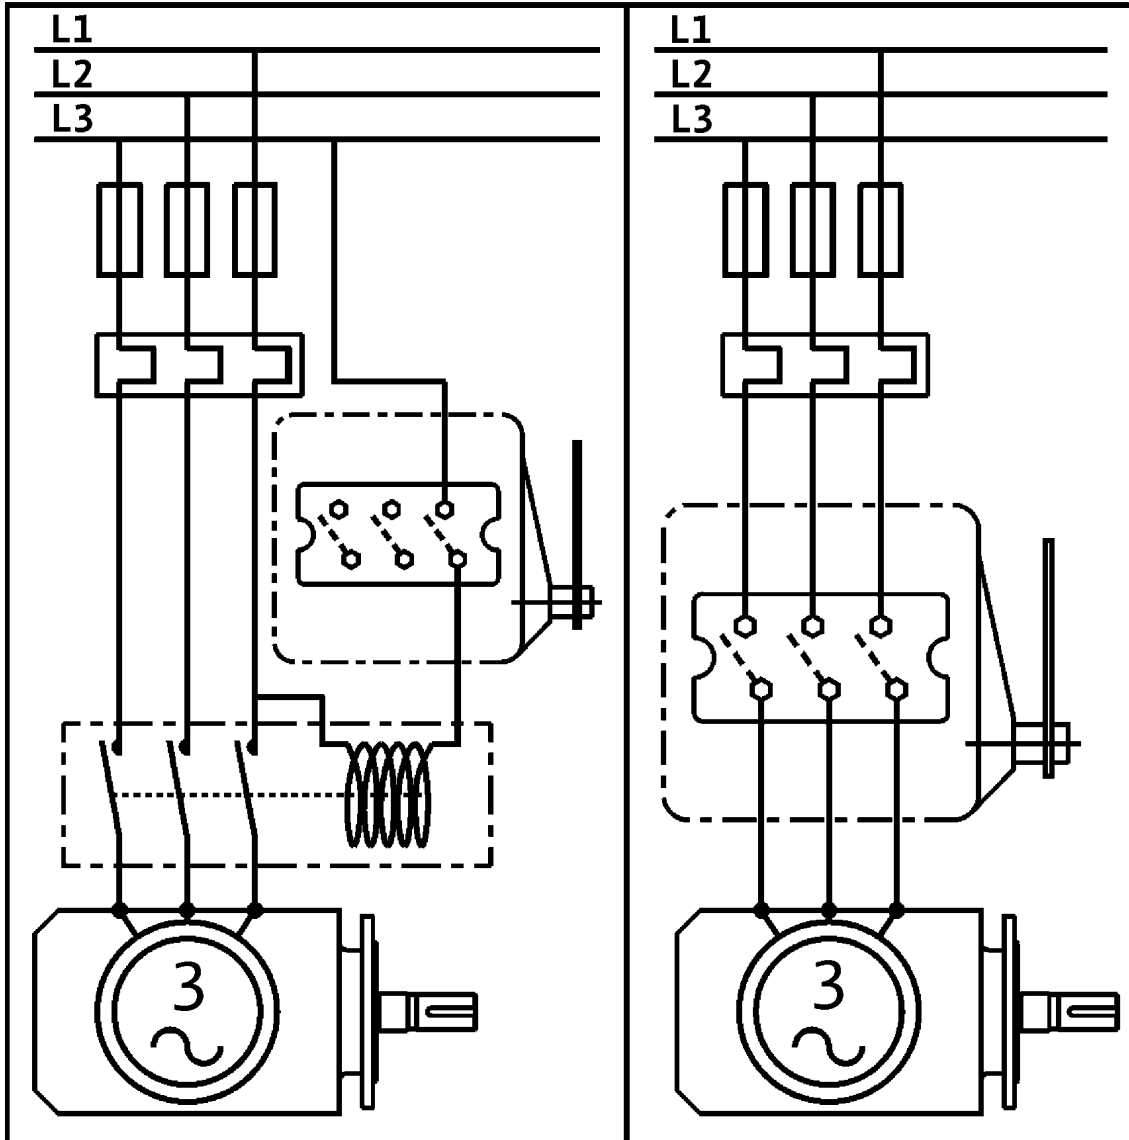

Fig. 6
- Assignment of supply terminals (Fig. 5) (Fig. 6) :